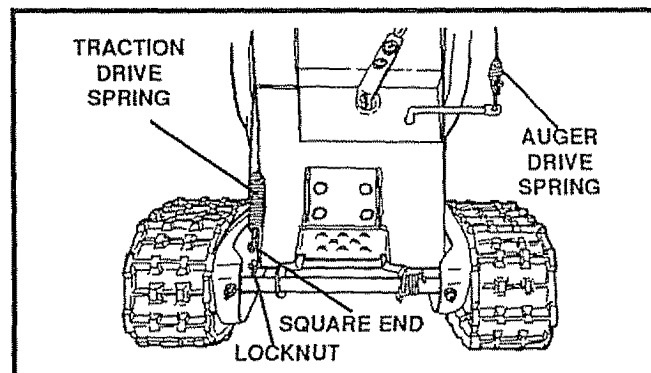

FIG. 22
- Push the cable through the spring (See Fig. 22) to expose the threaded portion of the cable.